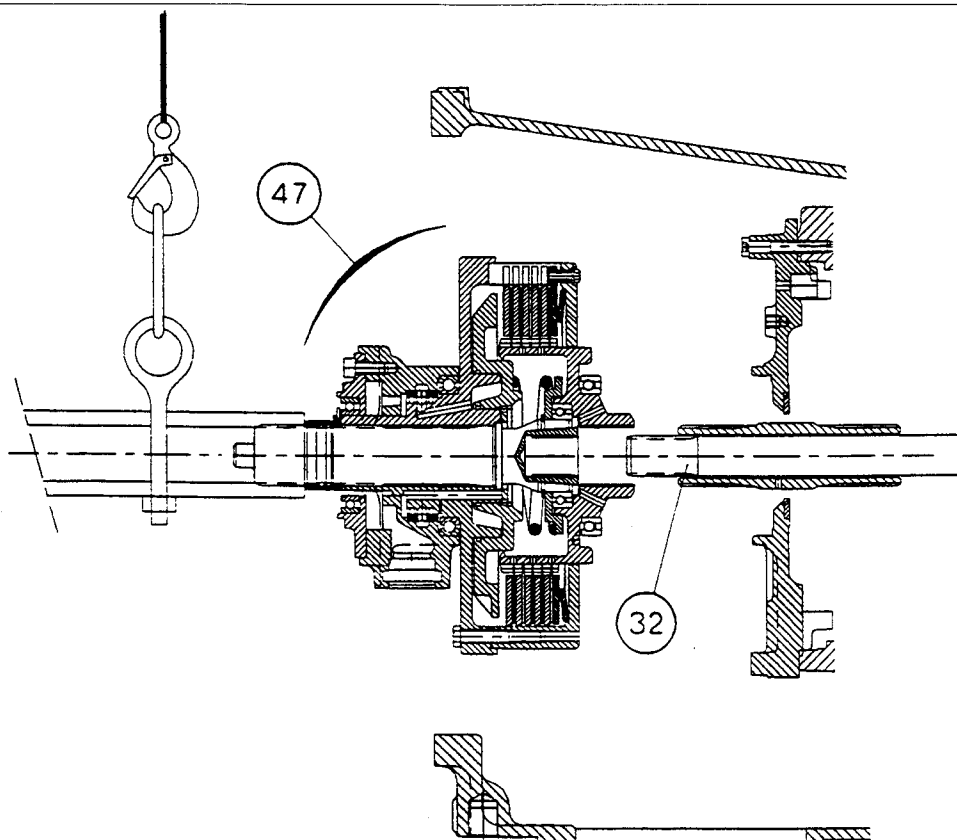

Fig. 2
15. Remove the pipes (73) and (76), detach the cover (61), remove the flange (19) and the pipe (17).
16. Remove the clutch assembly (47) using a locally manufactured tool (Fig. 2).
17. Remove the PTO shaft (32).